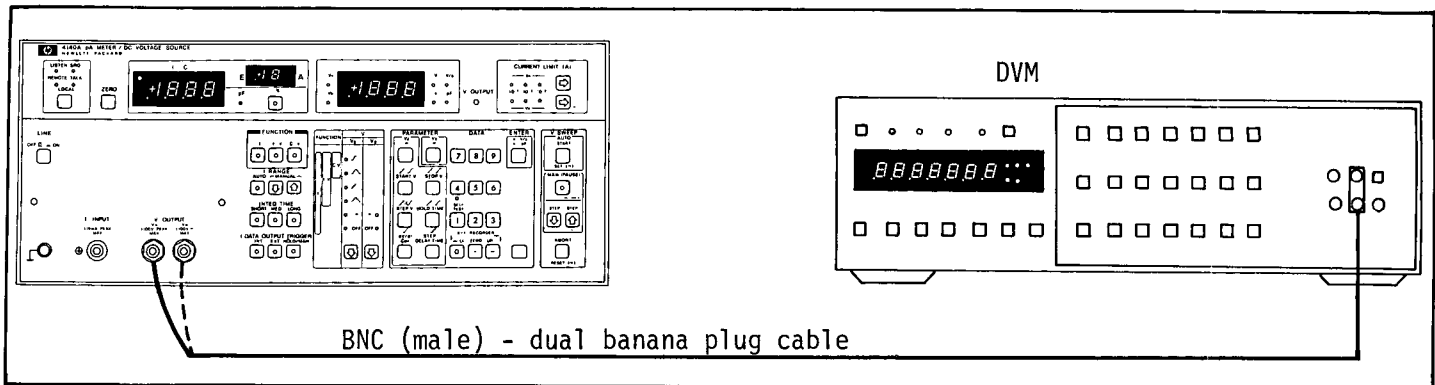

Figure 4-1. Voltage Output Accuracy Test Setup.
1. Connect BNC (Male) - dual banana plug cable between 4140A V_A OUTPUT connector and DVM (see Figure 4-1).
- V_A == (DC)